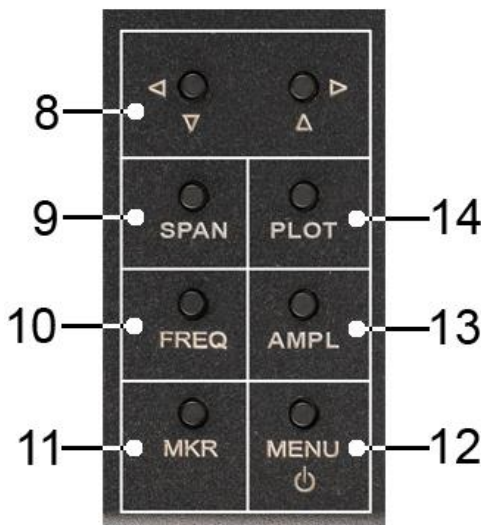

Figure 5.2 – Control buttons unit
5.2. The block of buttons for controlling the device is shown in Figure 5.2.